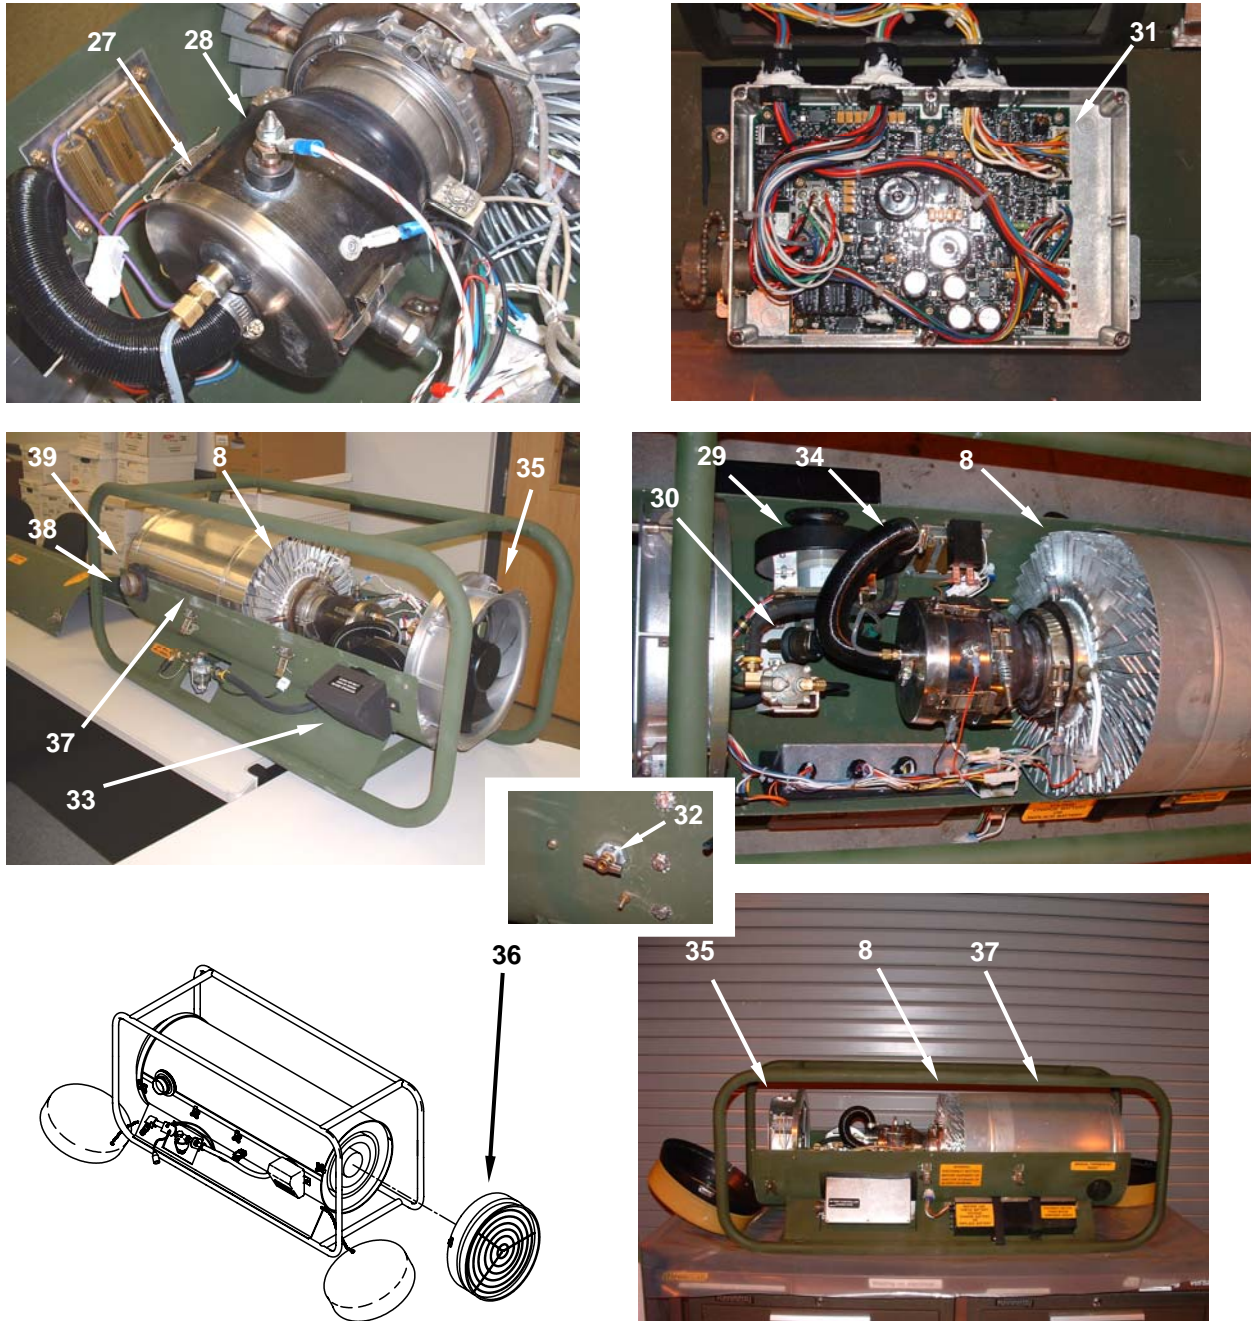

Figure 4. Space Heater Convective (SHC) 60K BTU Internal Components.
The burner assembly (**Figure 4, Item 27**) consists of a vaporization type burner. The burner assembly uses a glow plug (**Figure 4, Item 28**) for starting and requires no power other than the combustion blower (**Figure 4, Item 29**) and the fuel pump (**Figure 4, Item 30**) to operate. During starting, the main control board (**Figure 4, Item 31**) directs 11.5 V DC from the battery to the glow plug to initiate startup. An external fuel drain (**Figure 4, Item 32**) is also provided under the float assembly to facilitate draining the fuel system.
The main control board (**Figure 4, Item 31**) uses information from the heater's sensors and the tent control assembly to determine the ideal firing rate. The air/fuel ratio is adjusted as needed to maintain the ideal firing rate.
The main control board (**Figure 4, Item 31**) is housed on a printed circuit board and located on the lower housing next to the battery compartment and is clearly marked. The main control board manages the distribution of power throughout the Space Heater Convective. It includes temperature and tilt sensors and the control circuit. The control circuit analyzes information from the sensors to maintain the optimum firing rate for the heater. To maintain the firing rate, it controls the rates of fuel flow and air flow, and continuously monitors the in-tent control assembly settings to verify that the desired settings are reached.
The combustion air blower assembly (**Figure 4, Item 29**) integrates a 12-volt direct current (DC) combustion air fan located in the lower heater housing. The combustion air blower draws air through the combustion air inlet (**Figure 4, Item 33**) and passes it through a flexible hose (**Figure 4, Item 34**) to the burner assembly (**Figure 4, Item 27**).
A heated air blower assembly (**Figure 4, Item 35**) is mounted behind the duct adapter (**Figure 4, Item 36**). It features a 12-volt DC fan in series at the inlet end of the heater. The fan moves approximately 500 cubic feet per minute (CFM) of heated, breathable air when operating.
The heated air blower assembly (**Figure 4, Item 35**) forces fresh air or air removed from the tent through the heater. This air passes across the TEG and the heat exchanger, where it absorbs heat and is directed into the tent.
The fuel pump (**Figure 4, Item 30**) is controlled by frequency pulses from the heater control assembly and is responsible for supplying fuel to the burner assembly.
The heat exchanger (**Figure 4, Item 37**) transfers heat from hot gases produced by the burner to the heated (breathable) air. The heated air runs over the outside of the heat exchanger to collect the heat. This heated (breathable) air is then used to heat the tent. The heat exchanger is sandwiched between the upper housing assembly and the lower housing assembly. The heat exchanger provides an outlet and mounting flange for the combustion exhaust pipe (**Figure 4, Item 38**) and an O-ring seal and gasket (**Figure 4, Item 39**). The hot combustion gases inside the heat exchanger are exhausted outside the enclosure through the combustion exhaust pipe.
The thermoelectric generator (TEG) (**Figure 4, Item 8**) provides electrical power to operate the heater system and recharge the battery. Once the TEG is operating at full power, it supplies enough energy to operate the heater assembly and maintain a battery charging voltage of 14.5 volts. When the battery pack has been fully charged, the extra energy the TEG creates is converted into heat and used to heat the shelter.